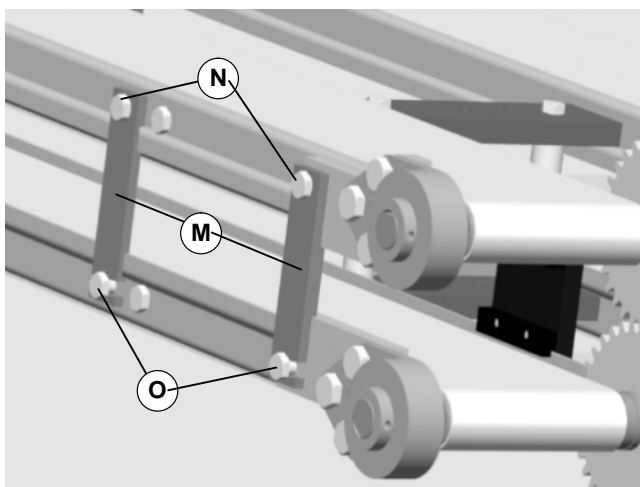

Figure 5
4. On the eight (8) outer support bars (M of figure 5), use a 13mm wrench to loosen pivot screws (N). Loosen slot screws (O).
6. Rotate outer support bar (M of figure 5).